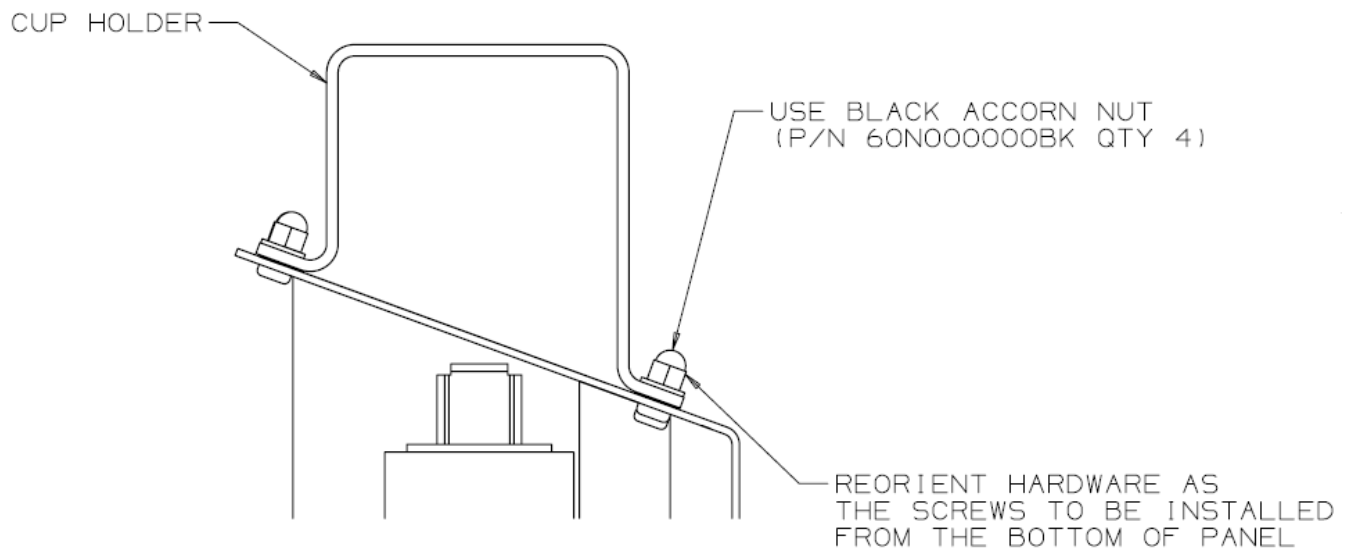

Figure 8: Re-install Cup Holder with New Hardware
- b. Re-install the cup holder using the four new screws (NF PN 14S00010BK) and four new acorn nuts (NF PN 60N00000BK). Please install hardware as shown in Figure 8 below.
10. Re-install the cup holder using the four new screws (NF PN 14S00010BK) and four new acorn nuts (NF PN 60N00000BK). Please install hardware as shown in Figure 8.